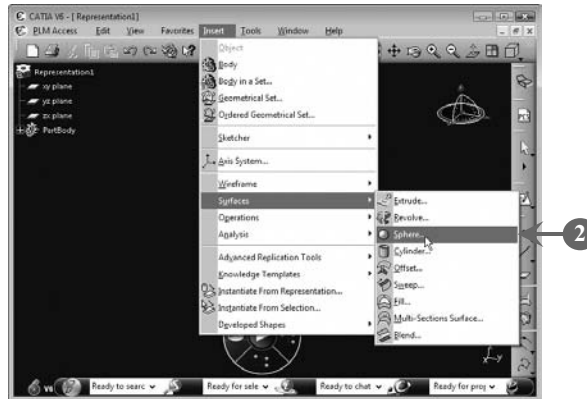

FIGURE 5.40
2. *Select* **Insert**>**Surfaces**>**Sphere** from the menu bar to create the desired spherical surface, as shown in **Figure 5.40**: